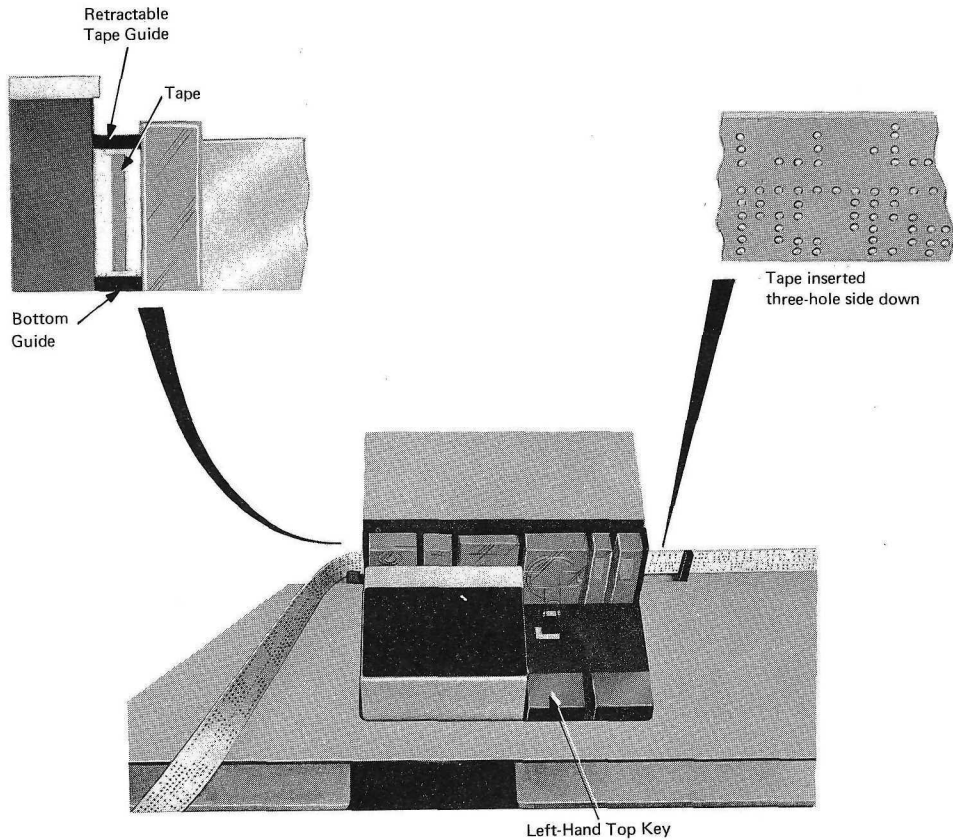

Figure 18. Step 6: Loading Tape into Read Head [08317A]
- a. With hands spaced apart to the width of the read head, insert the tape three-hole side down vertically into the read head (Figure 18).